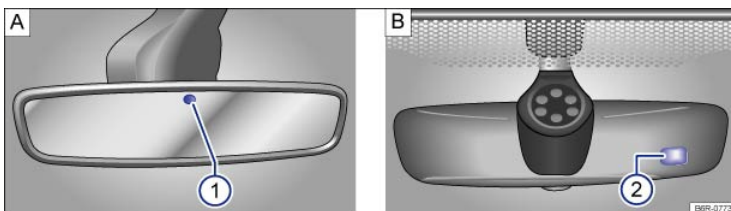

Fig. 96 Self-dimming rearview mirror (if equipped).
- One sensor on the side facing the interior to measure light from *the rear* of the vehicle ⇒ Fig. 96①.
- One sensor on the side facing the windshield to measure light from *the front* of the vehicle ⇒ Fig. 96②.